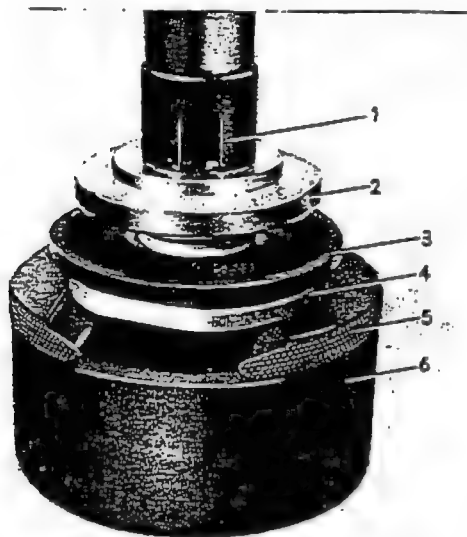

Fig. 42-13/5
- Insert the friction spring (10) in the bore of the piston (7) (Fig. 42-13/2).